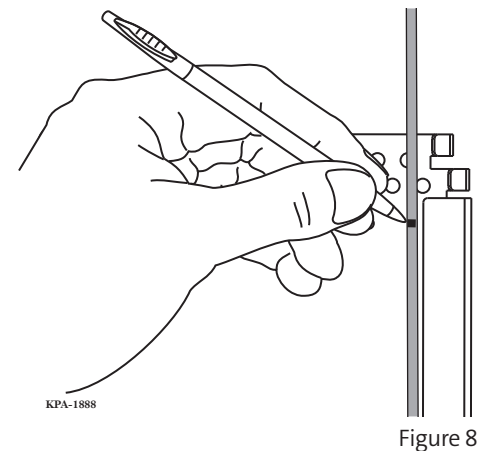

Figure 8
Step 1: Mark the buffer tube where it enters the splice tray as shown in Figure 8.